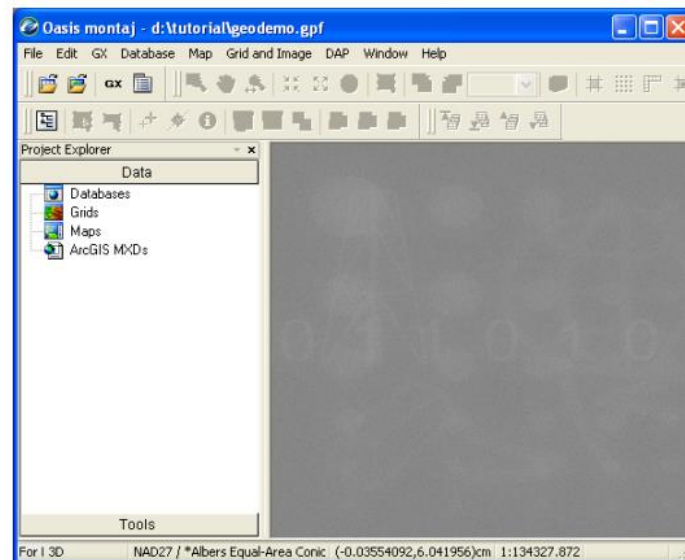

Figure 1.59. – Oasis montaj Project Explorer window
4. Click the **[Save]** button. The system saves the project and indicates it is open by adding menus to the menu bar, adding buttons to the *Database Tools*, *Map Layout*, *Map Tools* and *Standard* short-cut tool bars and by displaying the *Project Explorer* window. These are visual clues indicating that you are ready to start working with the system, fig. 1.59.